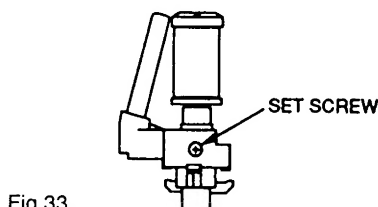

Fig 33.
- 1: Slightly loosen the set screw at the lower part of the LOADING LEADERS (L), (R) so that the LOADING LEADER can be adjusted with reasonable tightness. (Refer to Fig 33.)